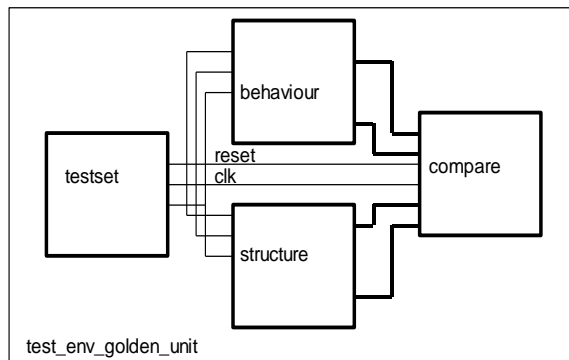

figure 5: test generated post simulation model against a golden unit
For component “structure” in figure 5 use the generated post simulation model.
1. Simulate the design in figure 5
2. Add a screenshot of a selection in your report (zoom in for ~3 clock periods, that includes an increment of the seven segment displays. Show the internal lines of figure 5 in the wave window).